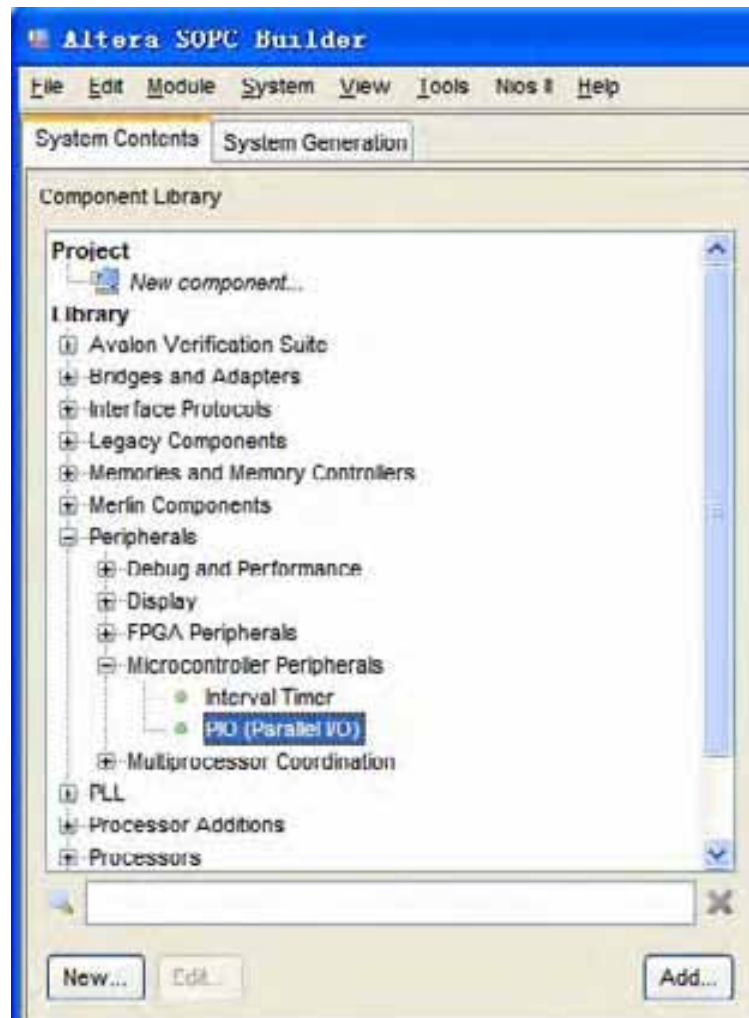
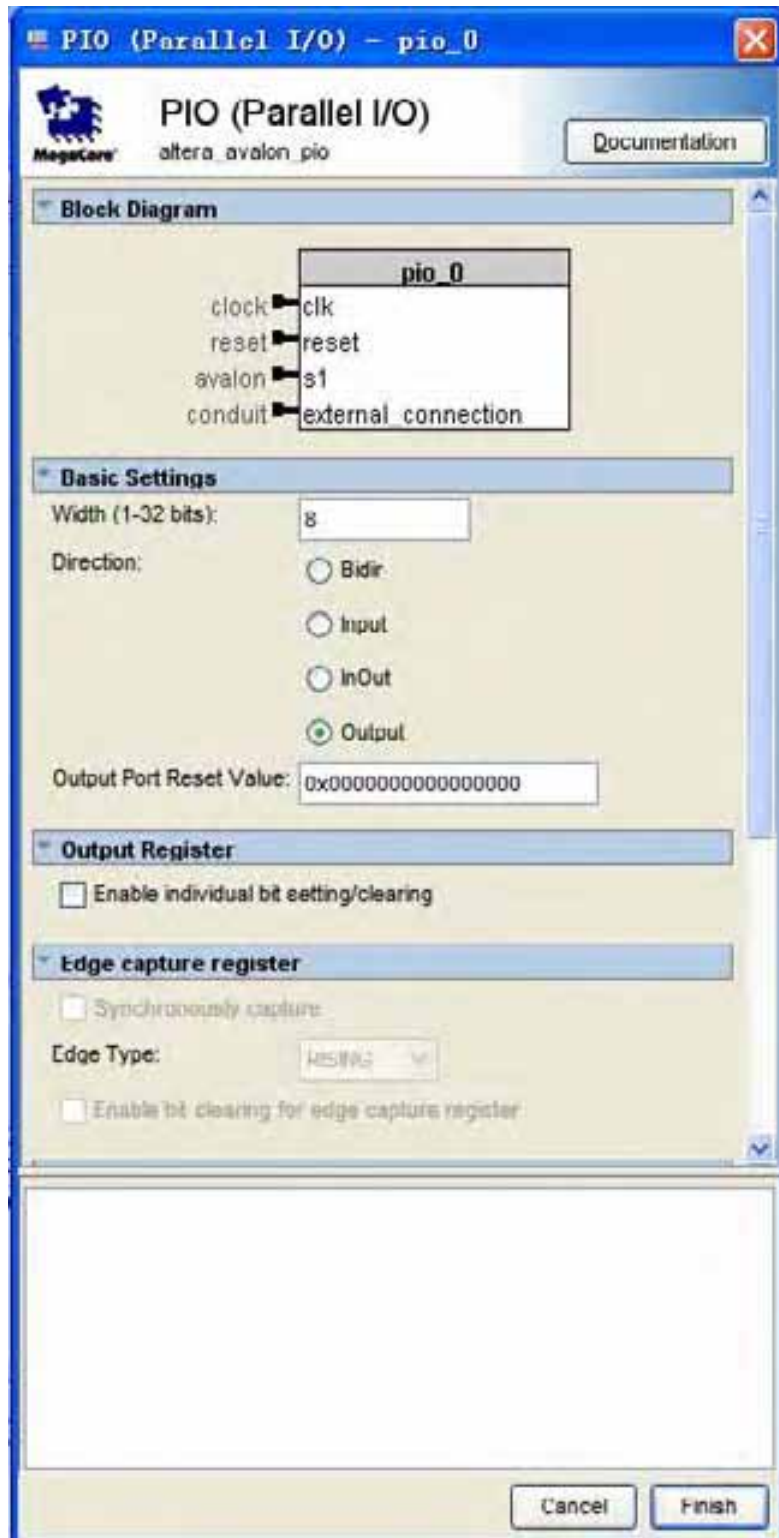

Figure 7-30 Add PIO
Figure 7-31 Add PIO
19. Add the **Library > Peripherals > Microcontroller Peripherals > PIO (Parallel I/O)** component to the system, as shown in Figure 7-30 and Figure 7-31.